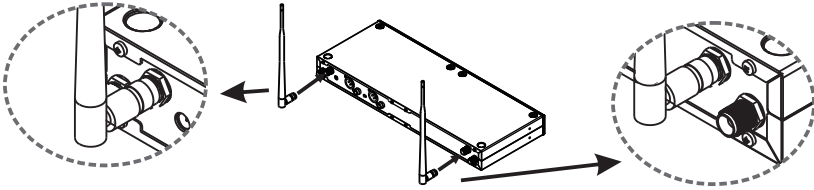

Fig. 4
- (A) Install supplied 2.4 GHz receiver TNC antenna A & B at TNC Antenna Connector ⑪ . Fig. 4